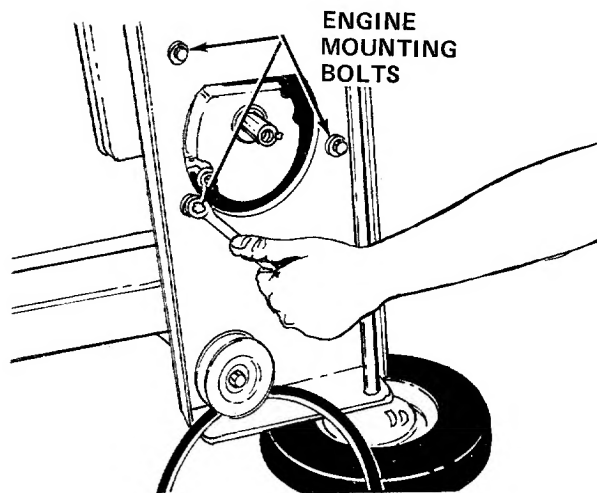

FIGURE 15
5. Loosen the three engine mounting bolts using a 1/2" wrench. Refer to figure 15.
6. Loosen the three engine mounting bolts using a 1/2" wrench. See figure 15.